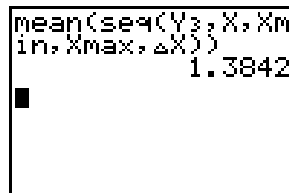

Figure 68
- To examine the mean percent error in a more numerical way, return to the Home screen, and clear it by pressing \square . Now create the expression in Figure 68 using the CATALOG (\square) menu, the appropriate Window, and the Y-Vars variables from the VARS menu (\square). Press β when completed.